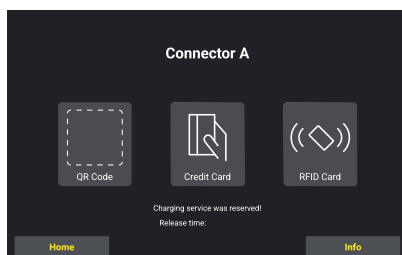

Figure 6-4 Authorization Screen
C. Select the authorisation method to start the charging session. Using mechanical buttons below the operation screen select QR Code, Credit Card, or RFID Card (see Figure 6-4 Authorisation Screen). Depending on the selected method use the Charge Point Operator mobile app to scan the QR Code or tap Credit/Debit Card or RFID Card.